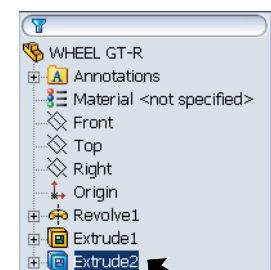

Fig. 15
Step 2. Click **Extrude2** in the Feature Manager (left panel) to select the hole in the wheel, **Fig. 15**.